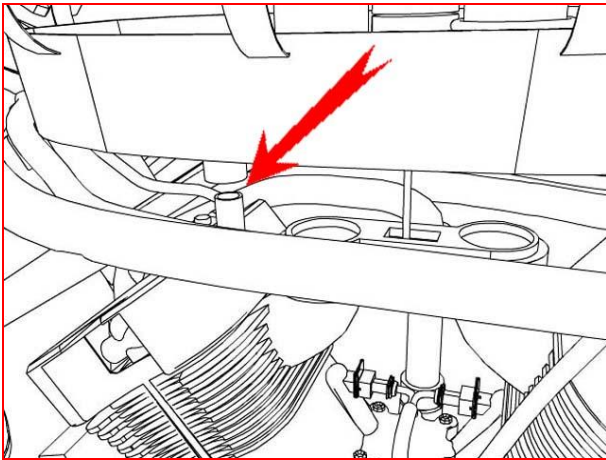

Figure 6
6. Disengage the front crankcase breather hose and remove the airbox floor. There is no clamp on this hose. (see figure 6)